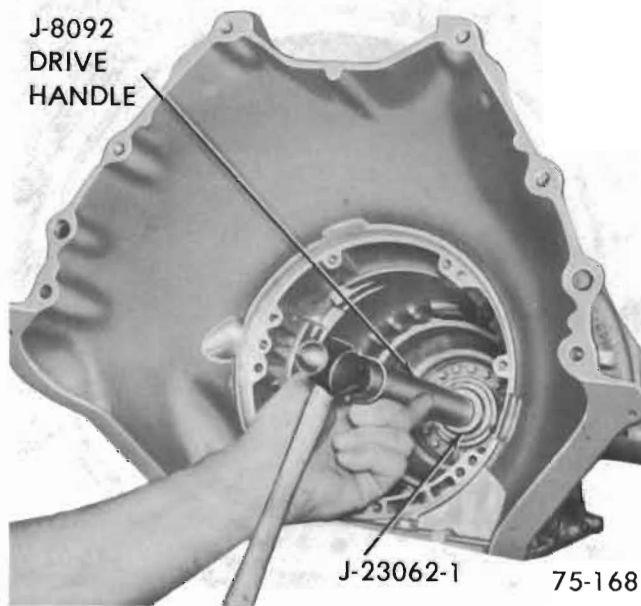

Figure 75-123
2. Using Tool J-23062-1 and Drive Handle J-8092, press bushing to .195" below chamfered edge of case. Make certain split on bushing is opposite notch in case. See Figure 75-123.